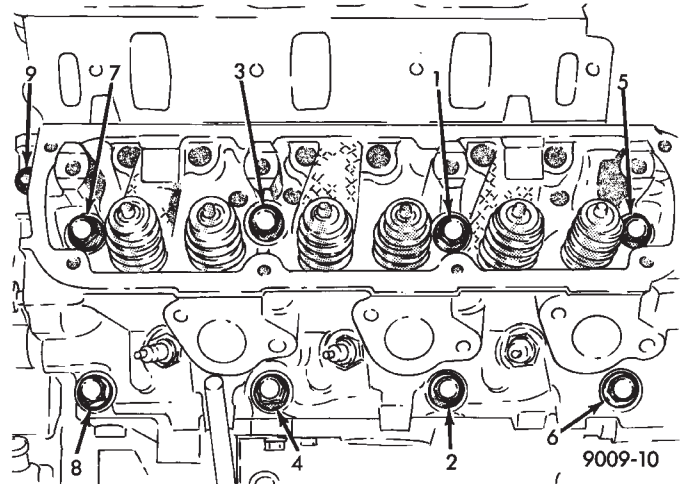
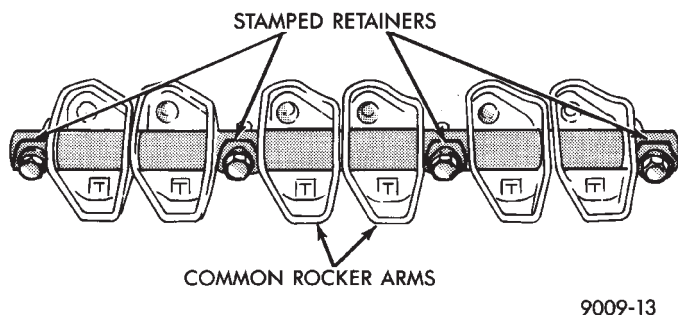

Fig. 10 Cylinder Head Tightening Sequence
Fig. 11 Rocker Arm Shaft Retainers
(3) Tighten the cylinder head bolts 1 thru 8 in the sequence shown in (Fig. 10). Using the 4 step torque turn method, tighten according to the following values:
(5) Tighten head bolt number 9 (Fig. 10) to 33 N•m (25 ft. lbs.) after head bolts 1 thru 8 have been tightened to specifications.
(6) Inspect push rods and replace worn or bent rods.
(7) Install push rods, rocker arm and shaft assemblies with the stamped steel retainers in the four positions, tighten to 28 N•m (250 in. lbs.) (Fig. 11).
(8) Place new cylinder head cover gaskets in position and install cylinder head covers. Tighten to 12 N•m (105 in. lbs.).